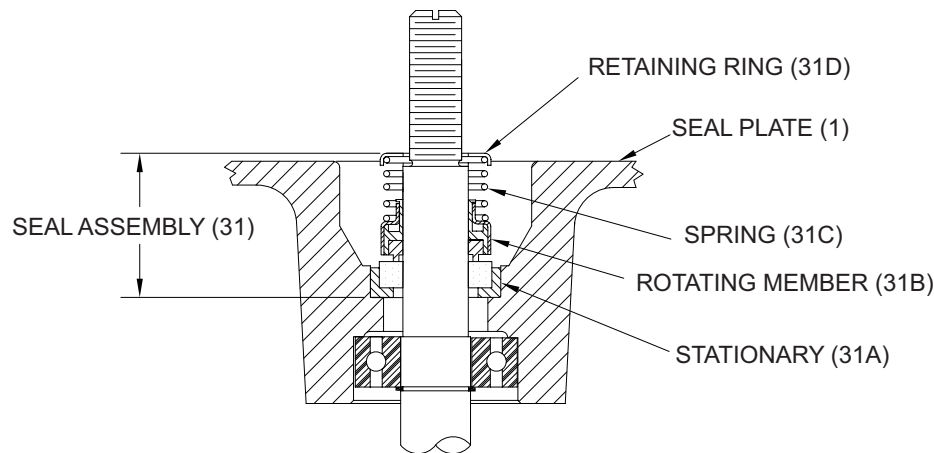
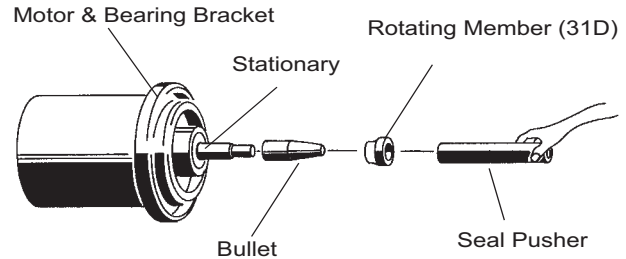

FIGURE 5
FIGURE 7
OUTER SEAL -To expose outer shaft seal (31) for examination disassemble volute and impeller as outlined in paragraph F-2.1. If further repair is required remove retaining ring (31d), spring (31c) and rotating member (31b) from shaft (see Fig. 5). Examine all seal parts and especially contact faces. Inspect seal for signs of wear such as uneven wear pattern on stationary members, chips and scratches on either seal face. **DO NOT** interchange seal components, replace the entire shaft seal (31). If replacing seal, remove stationary (31a) by prying out with flat screw driver.
Make sure the stationary member is in straight. Slide a bullet (see parts list-seal tool kit) over motor shaft. Lightly oil (**DO NOT use grease**) shaft, bullet and inner surface of bellows on rotating member (31b) see Fig. 7. With lapped surface of rotating member (31b) facing inward toward stationary member (31a), slide rotating member (31b) over bullet and onto shaft, using seal pusher, until lapped faces of (31a) and (31b) are together (see Fig. 5).